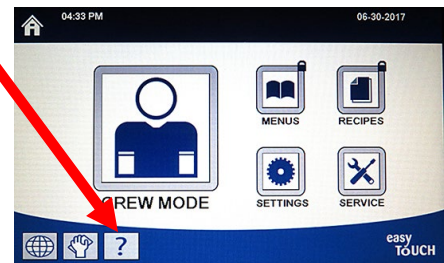

Figure 24
3. Press the **?** button (see Figure 24).